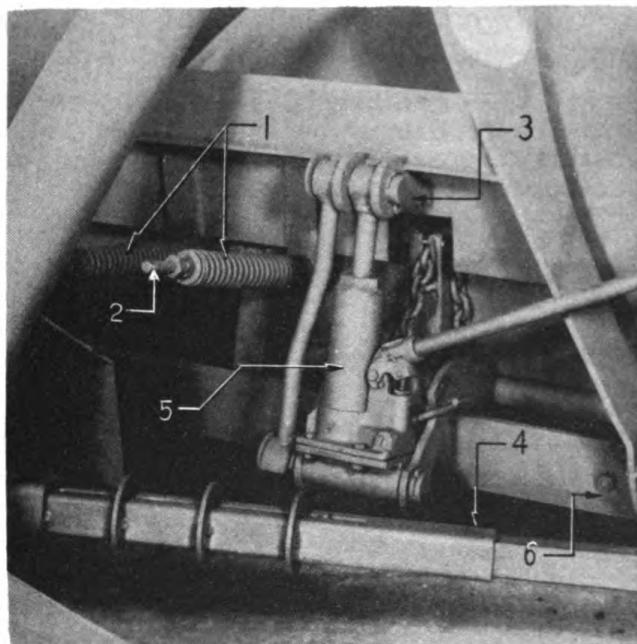

Fig. 3
- F. Place the flat washers on the three bolts and insert them in the holes lined up during the previous operation. Put lock washers on the three bolts and screw on nuts (6) leaving them loose until brush is adjusted.
- G. Replace jack lift (5) assembly by reversing the procedure explained in operation "C". (See Fig. 3 Page 10)
- I. Replace counterbalance springs (1) and adjust. (Refer to "COUNTERBALANCE SPRING ADJUSTMENT" page 19).